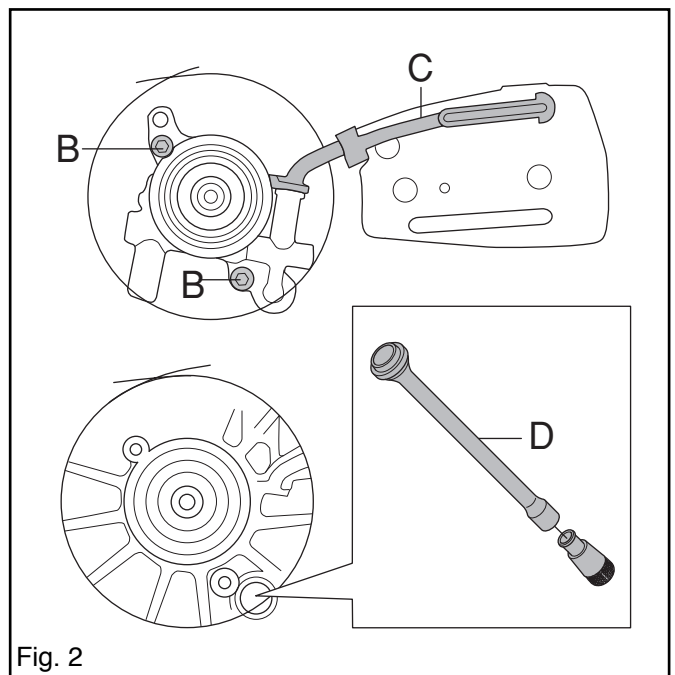

Fig. 2
4. Grease in the needle bearing before fitting. Fit the clutch drum (C) with needle bearing (D) and chain drive sprocket (E). See fig. 2 page 26.
6. Fit the washer and locking ring (B). See fig. 2, page 26.
4. Remove the two bolts (B) and lift up the oil pump from the crankcase. See fig. 2.
5. Use a screwdriver to push up the oil hose at C. Lift up the hose and pull it out of the oil pump. See fig. 2.
6. Use pointed pliers and pull up the suction pipe (D) with filter. See fig. 2.
1. Insert the suction pipe (D) in the hole in the crankcase. See fig. 2 page 28.
6. Fit the oil pump in the crankcase. Fit the oil hose with seals. See fig. 2 page 28.
- The mixing venturi, B in fig. 2.